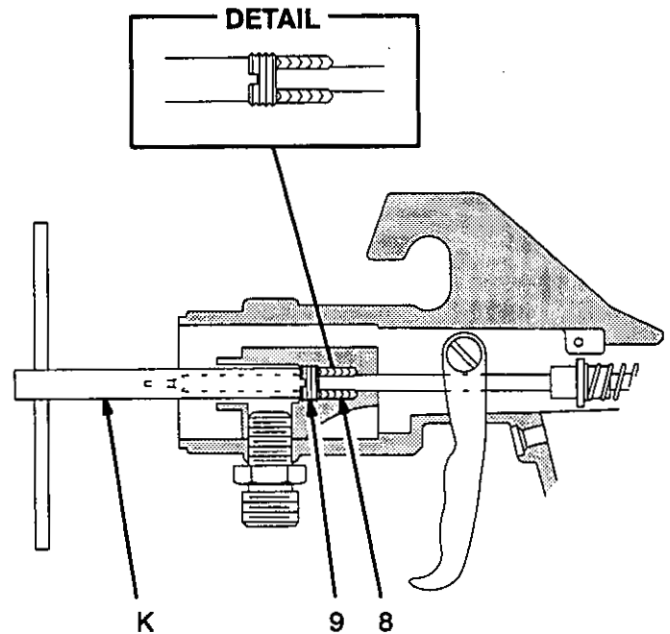

Fig. 27
4. Trigger the gun while you turn the packing nut (9) slightly clockwise with the packing wrench (K), provided. See Fig. 27. This will compress the packings.